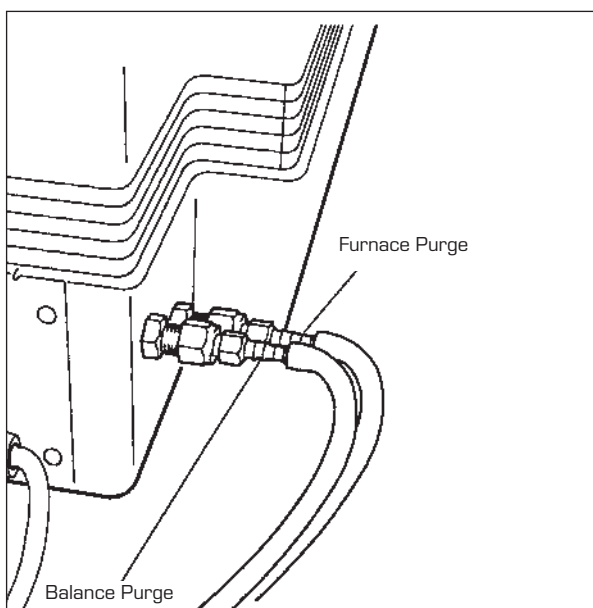

Figure 2.9
1. Locate the FURNACE PURGE and BALANCE PURGE fittings on the right side of the TGA instrument back (Figure 2.9).